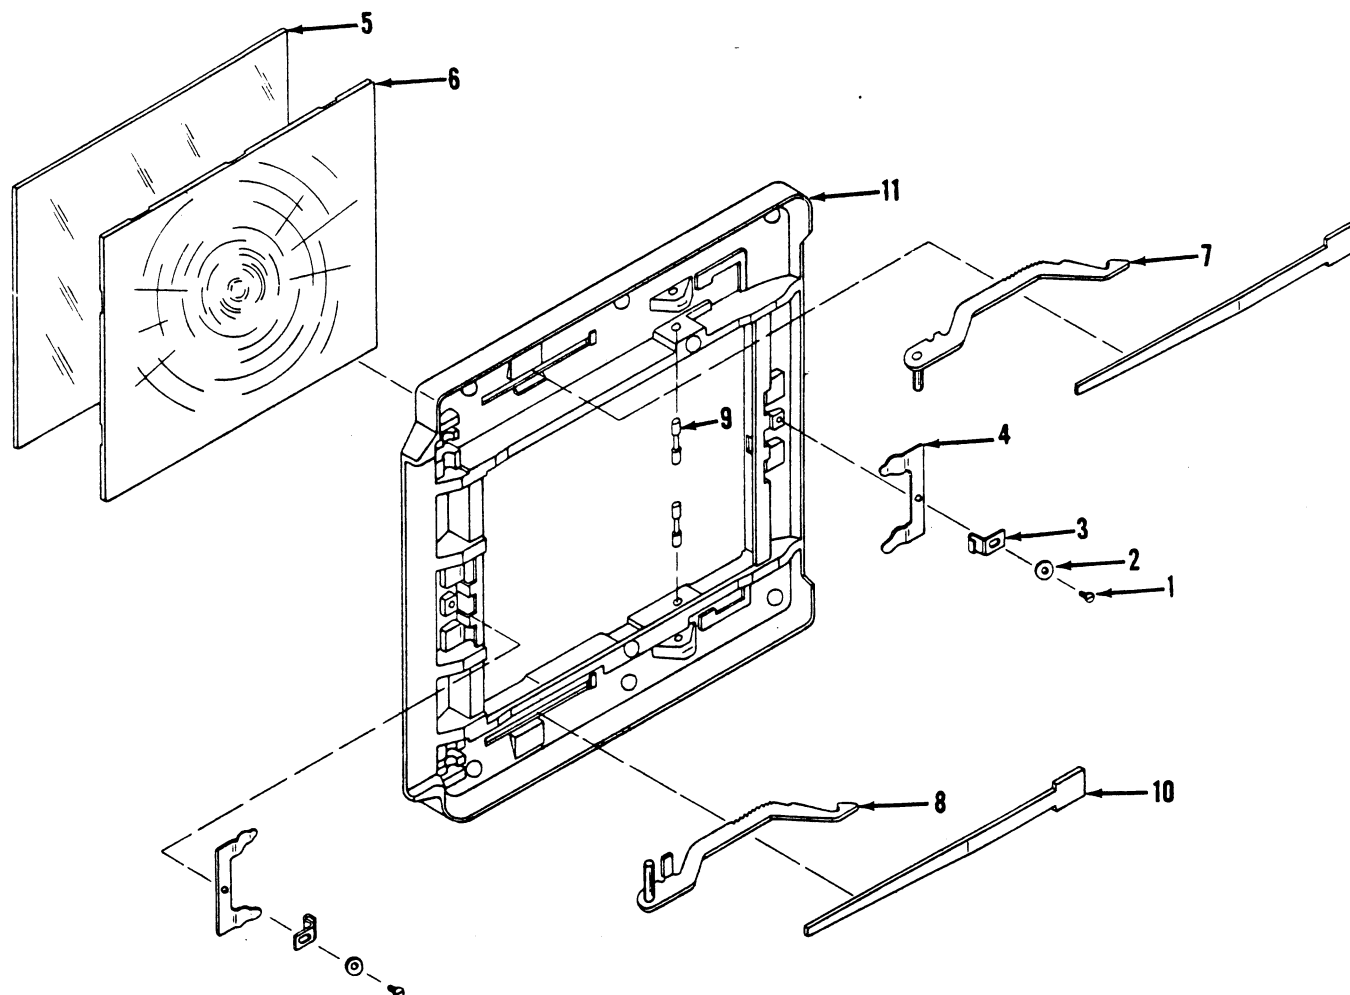

Figure 8. FOCUSING FRAME ASSEMBLY
T. FOCUSING FRAME ASSEMBLY - DISASSEMBLY AND REASSEMBLY (Figure 8)
- a. Remove machine screw (1), flat washer (2), focusing hood retainer (3) and focusing screen retainer (4) on two sides.
- b. Remove ground glass focusing screen (5) and Ektalite screen (6).
- c. Remove arm assembly (7) or (8) by lifting upward on hook end of arm and pulling straight backward.
- d. If necessary, remove spring pin (9) and arm assembly spring (10) by depressing spring (releasing spring tension on shaft of pin) and driving pin towards large opening in focusing frame (11). Repeat same procedure on opposite side.
- e. Wash ground glass focusing screen (5) and Ektalite screen (6) with soap and water. Rinse thoroughly and dry.